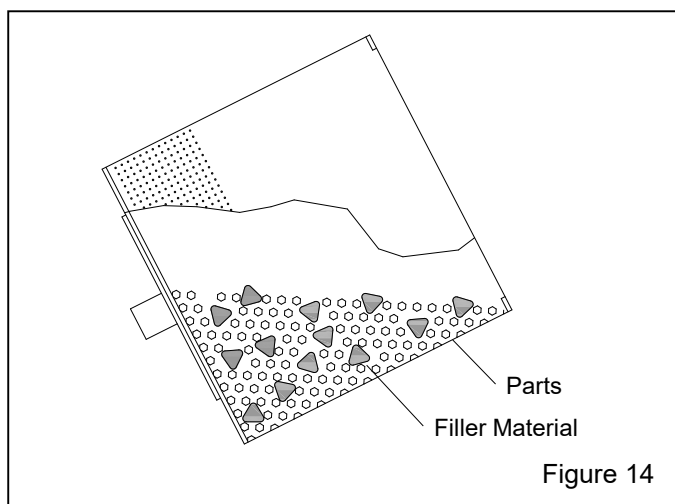

Figure 14
4.5.3 Do not underload with parts; under-loading will result in rapid wear to the tumble basket. To prevent the blast stream from blasting the basket when it has a small load, add filler material (dunnage), such as an abrasive-resistant tumble media that is compatible with the parts being blasted. Refer to Figure 14,